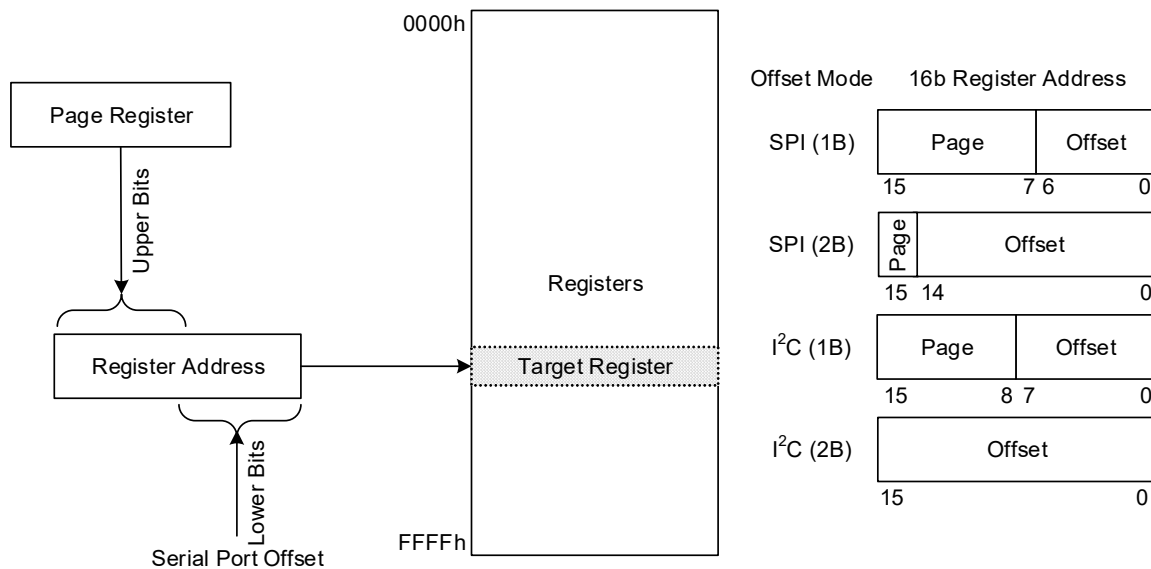

Figure 15. Register Addressing Modes Using Serial Port
You can choose to operate the serial port providing the full offset address within each burst, or to operate in a paged mode where part of the address offset is provided in each transaction and another part comes from an internal page register in each serial port. Figure 15 shows how page register and offset bytes from each serial transaction interact to address a register within the RC32514A.
The selection of 1-byte (1B) or 2-byte (2B) offset addressing must also be configured using the `ssi_addr_size` register field. These offsets are used in conjunction with the page register to access registers internal to the device (see Figure 15). Because the I2C protocol already includes a read/write bit with the Dev Addr, all bits of the 1B or 2B offset field can be used to address internal registers.
- 1-byte (1B) or 2-byte (2B) offset addressing (ssi\\_addr\\_size) (see Figure 15)